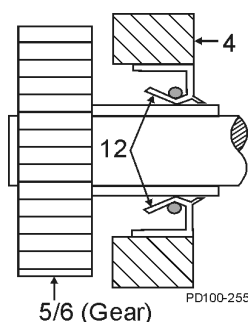

Figure 95 - Orientation of Oil Seal
2. Press the new oil seal (Figure 95, item 12) into the gear case cover (item 4) flush with the outside face, with the spring facing in.